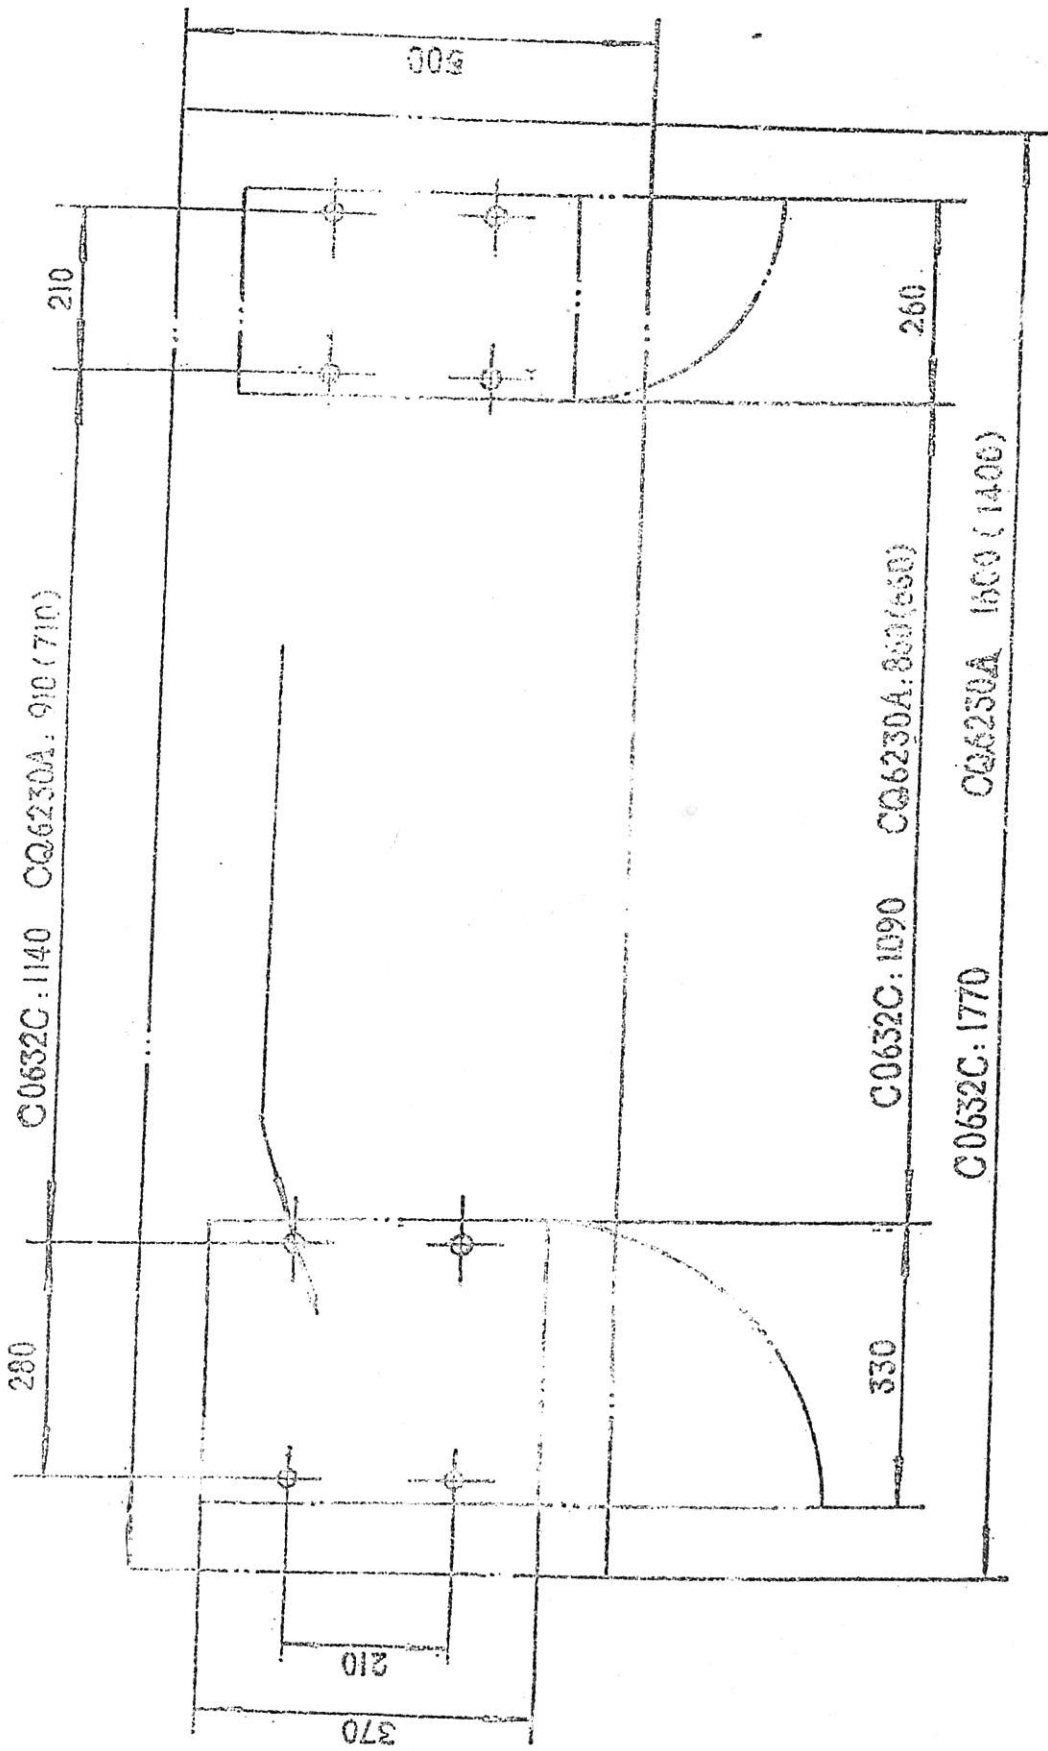

Fig. 3 Fixing dimensions for lath stand cabinets
7.4 The fixed dimension of the machine is shown in Fig.3. The lathe stand cabinets should be fixed firmly to the base.